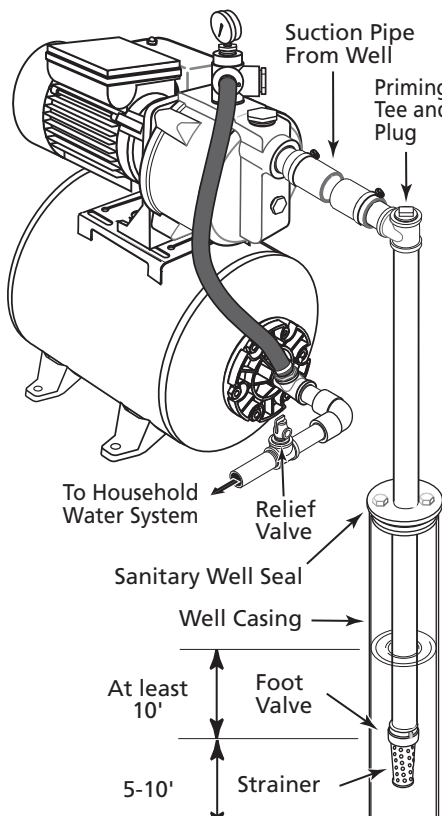

Figure 2: Cased Well Installation
Cased Well Installation, 2” or Larger Casing (Figure 2)
- Step 2. Assemble the foot valve, strainer, and well pipe (see Figure 2). Make sure that the foot valve works freely.
Step 4. Install a priming tee, priming plug, and suction pipe to the pump (see Figure 2). Connect the pipe from the well to the pump suction port, using the fewest possible fittings – especially elbows – as fittings increase friction in the pipe (however, include a foot valve – see Figure 2). The suction pipe should be at least as large as the suction port on the pump. Support the pipe so that there are no dips or sags in the pipe, so it doesn't strain the pump body, and so that it slopes slightly upward from the well to the pump (high spots can cause air pockets which can air lock the pump). Seal the suction pipe joints with Teflon™ tape or a Teflon™ based pipe joint compound. Joints must be air- and water-tight.